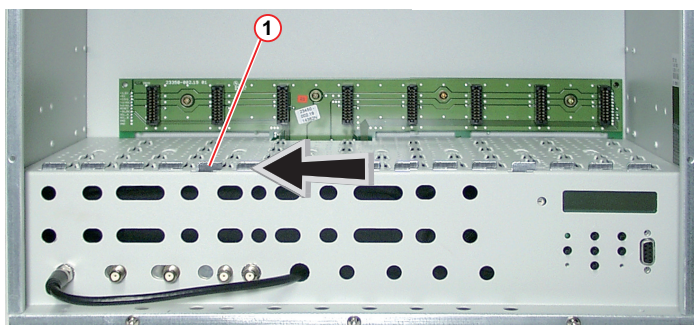

Fig.2
- Open the locking device ① in the direction of the arrow (fig. 2).